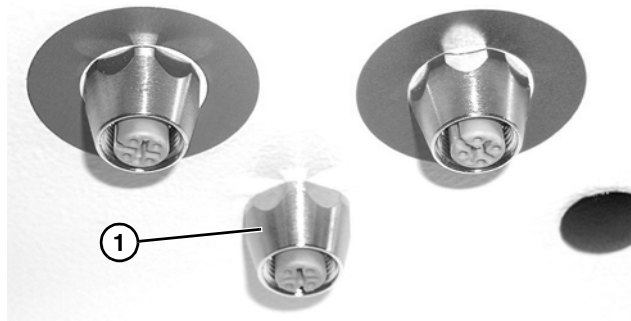

Figure 15
1. Connect push button to user selectable port (**Figure 15, item 1**).